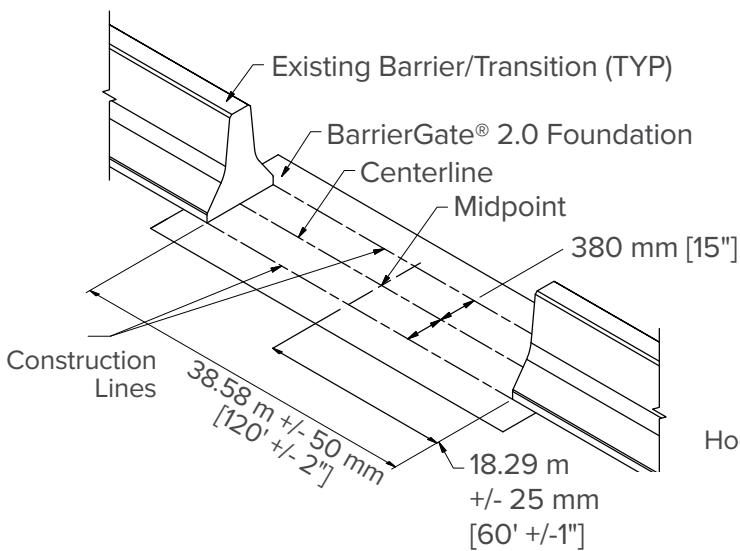

Figure 4
- 1. Mark the centerline and the mid-point of the assembly** (Figure 4). Find the center of the existing longitudinal barrier ends and place chalk marks on the foundation at these points (Figure 4). The distance between barrier or transition ends must be $120' \pm 2"$ [$36.58 \text{ m} \pm 50 \text{ mm}$]. Extend a chalk line between the center points and snap a line to mark the centerline of the assembly. Find and mark the exact midpoint of the assembly centerline. Snap two more construction lines parallel to the centerline and offset $15"$ [380 mm] to either side.